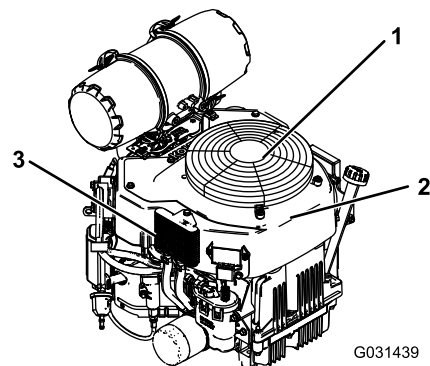

Figure 63
3. Remove the air-intake screen and fan housing (Figure 63).
5. Install the air-intake screen and the fan housing (Figure 63).